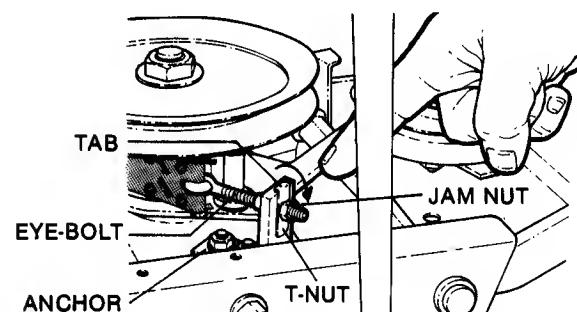

FIG. 11 - BLADE BRAKE ADJUSTMENT
As the brake band wears, the BLADE lever will gradually stop further rearward in the slot of the BELT COVER. BRAKE adjustment is required when the lever stops  $1/2"$  from the top of the belt cover. The adjusting point is shown in FIG. 11. With the engine stopped, the adjustment is made as follows:
STEP 2: While holding the BLADE lever firmly in the rearward position, loosen the jam-nut on the end of the eye bolt (refer to FIG. 11).